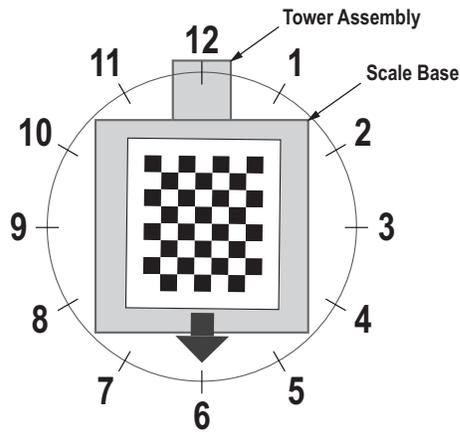

Figure 5-8. Rotate to 6 o'clock
- Align calibration object so the cross hairs are centered. Rotate the calibration object to 6 o'clock with the tower assembly being at 12 o'clock (Figure 5-8).